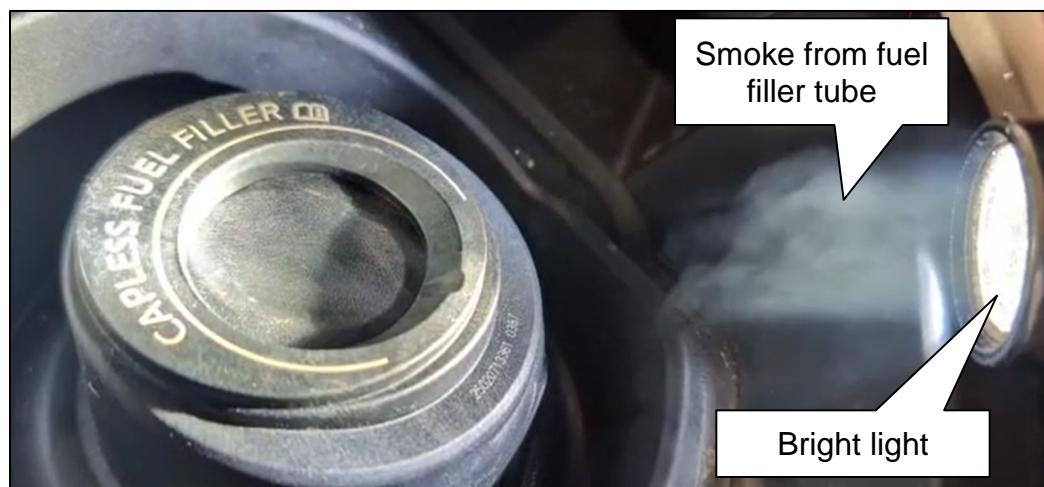

Figure 7
- e. Check for smoke leaking from the fuel filler tube with a bright light (Figure 7).